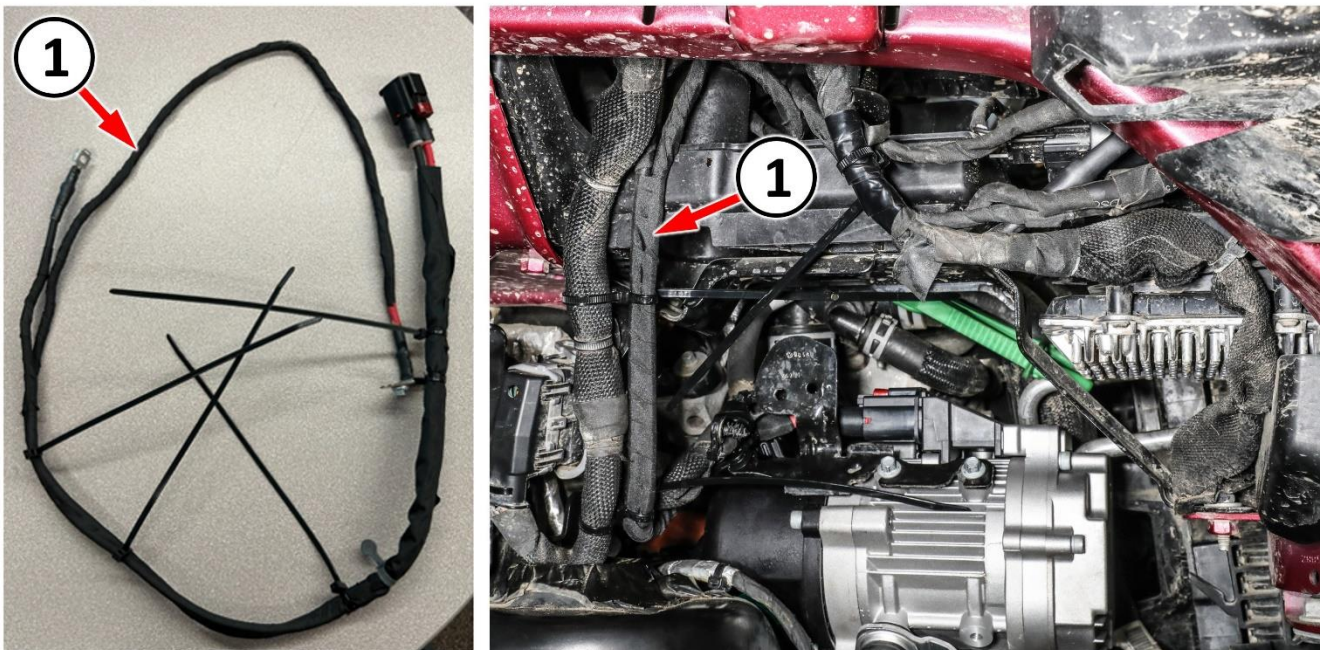

Figure B17 – EHPS Overlay Harness
38. Obtain the **NEW** EHPS overlay harness and position it in the engine compartment following the routing path of the original harness (Figure B17).
48. Route remainder of EHPS service overlay jumper along existing dash harness bundle routing, securing double tie strap clips to existing dash harness wiring bundle. Make sure overlay is not in direct contact with sharp edges (Figure B17).